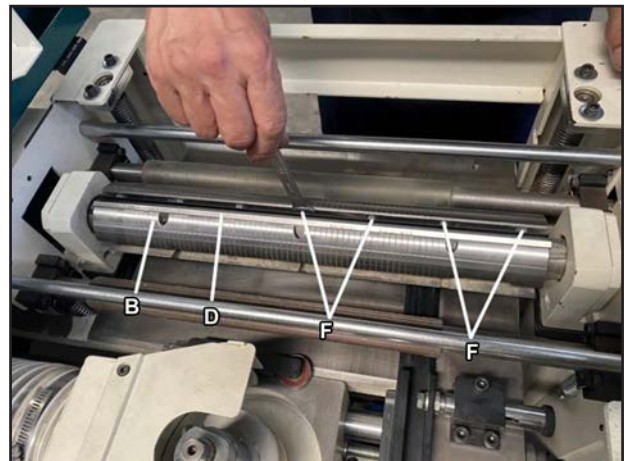

**Figure 19.** Location of gib, knife, and gib screws.
3. Turn the knife gib bolts (F) (see **Figure 19**) clockwise to loosen the knife gibs (G).